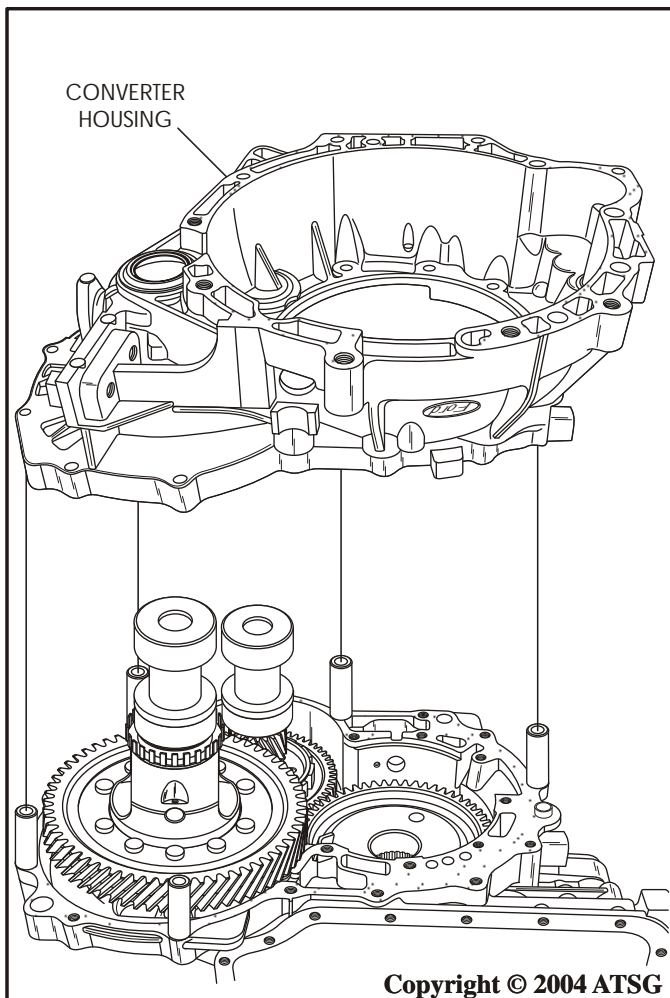

Figure 140A
60. Remove the six bolts and remove the converter housing from the transaxle (See Figure 140A).